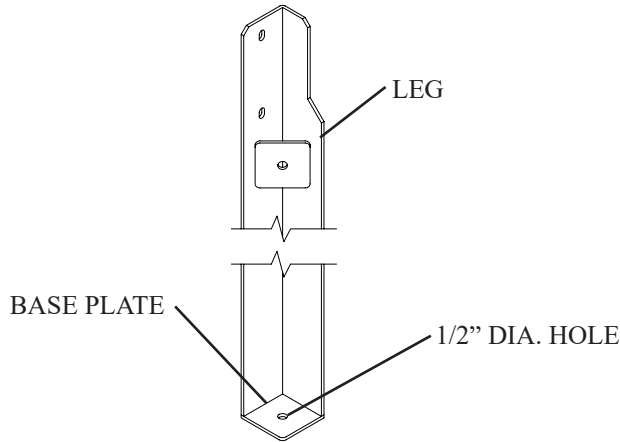

FIGURE 2A
- When the legs have been completely installed each leg should be bolted to the ground using the hole provided in the base plate of the leg (see Figure 2A).